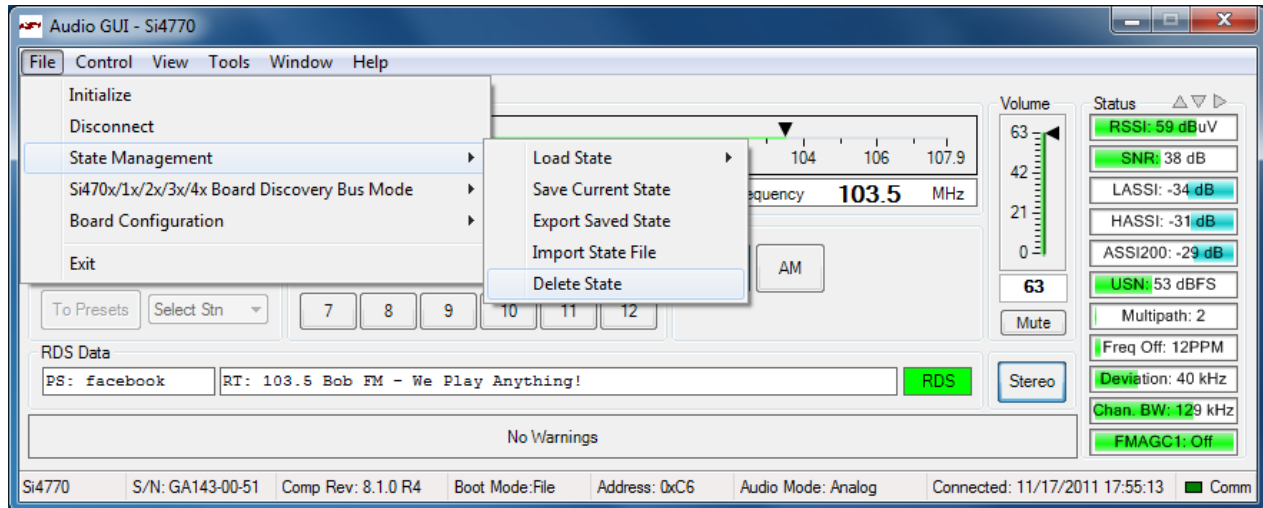

**Figure 13. Power Up from Saved Configuration State**
2. In Figure 13 below configuration state My Configuration is selected. Once the selection is made, click on Initialize and the part will boot with the property values stored in the My Configuration state.